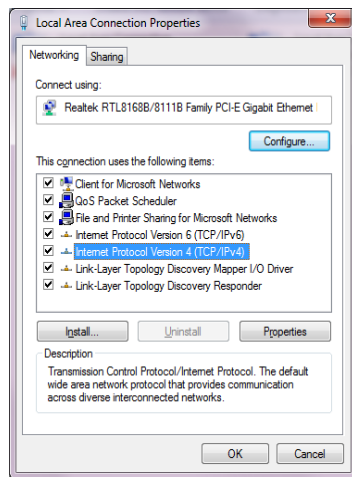

Figure 4: Local Area Connection Properties
3. Select “Internet Protocol Version 4” and click “Properties” (see Figure 4).